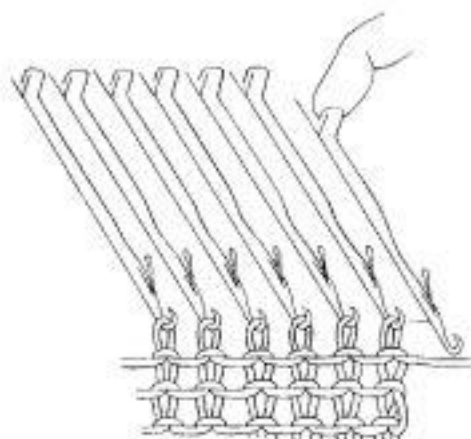

Fig. 40
To do this pull forward into working position the next empty needle at the end nearest the carriage, and knit. (Fig. 40)
- Bring the next empty needle into the working position. (Fig. 40)
- Bring into working position the next empty needle at the nearest end. (Fig. 40)